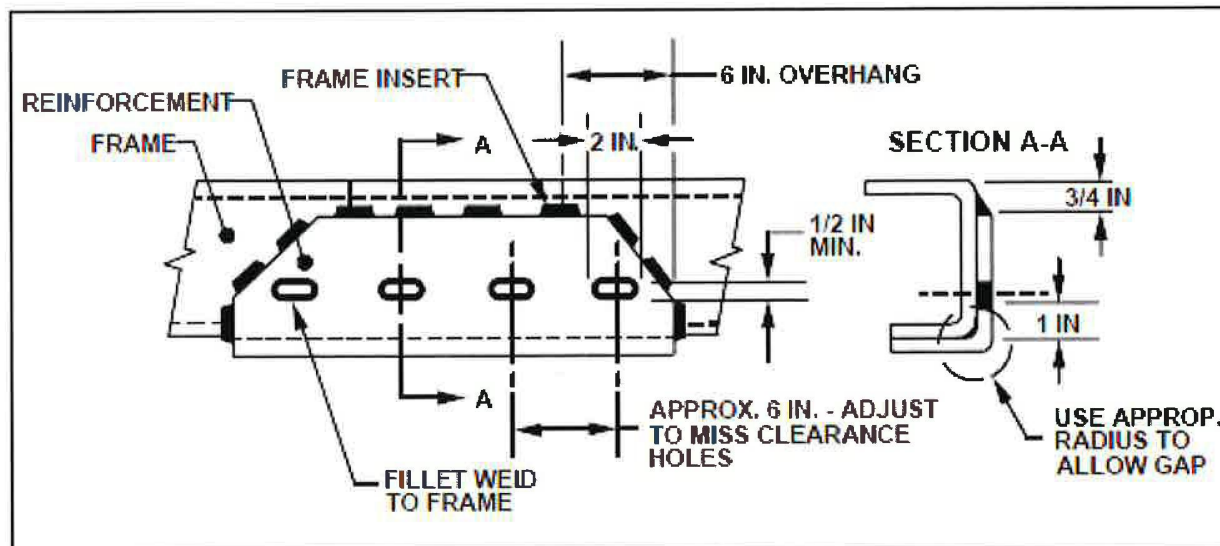
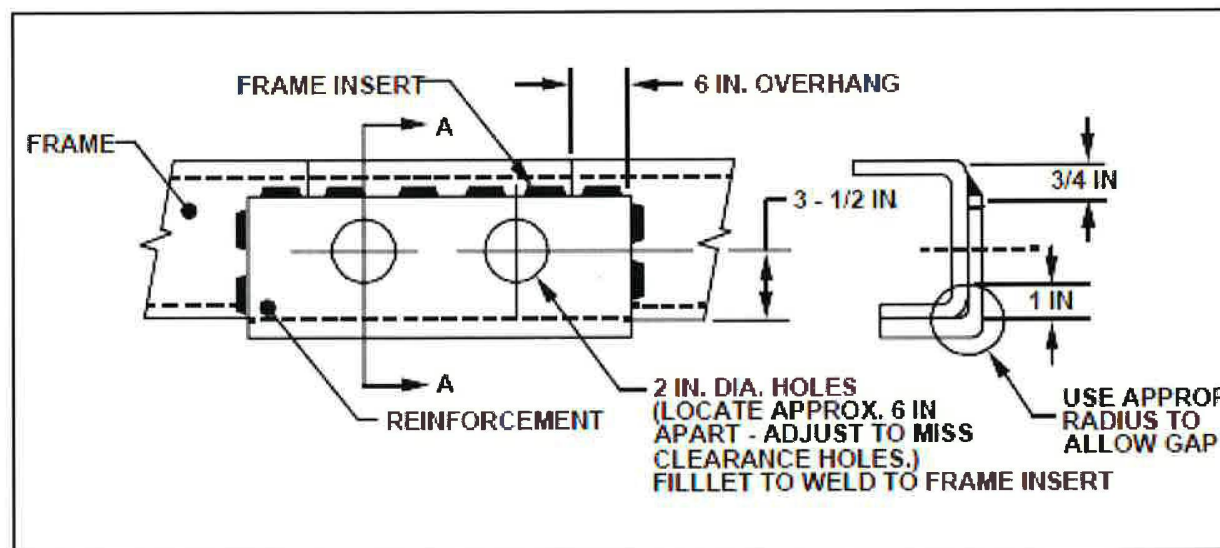

Figure 35 – Preferred Method for Reinforcement and Welding
Figure 36 – Minimum Required Method for Reinforcement and Welding
the radius for the band at the upper flange of the frame. (See Figures 35 and 36)
- The inside reinforcement bend radius must be larger than the outside radius of the frame to provide a gap at the bend. Refer to Figures 35 and 36 for greater detail. Add clearance holes to the reinforcement for all rivets, fasteners, or retention clips in the frame side member.
weld followed by a 2-inch space continuous along the reinforcement – See Figures 35 and 36.)
- For the final weld operation, fillet weld the reinforcement slots or holes to the frame as shown in Figures 35 and 36. Although perfectly acceptable, it is not necessary to fillet weld the entire circumference of the slots or holes. Performing a fillet weld only on the bottom half (for 180°) will provide sufficient strength.
Note: Although Figure 36 ("Minimum Required Method") is acceptable, the method illustrated by Figure 35 ("Preferred Method") is preferred for the reinforcement fabrication and weldment for the following reasons: